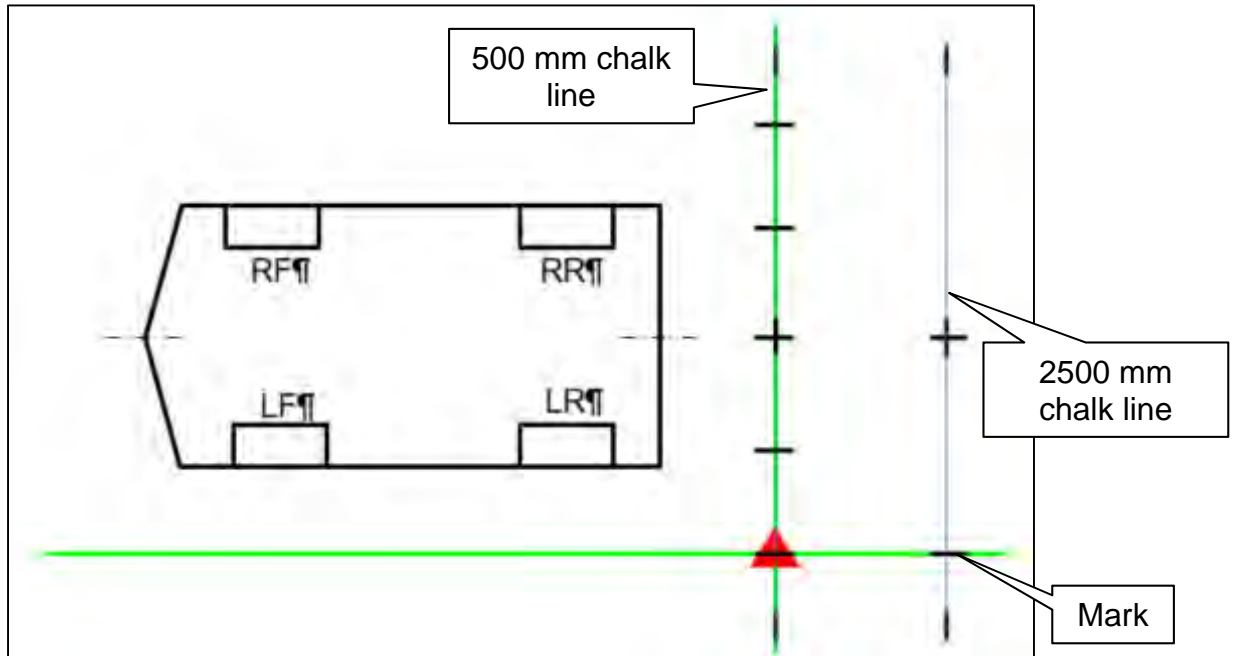
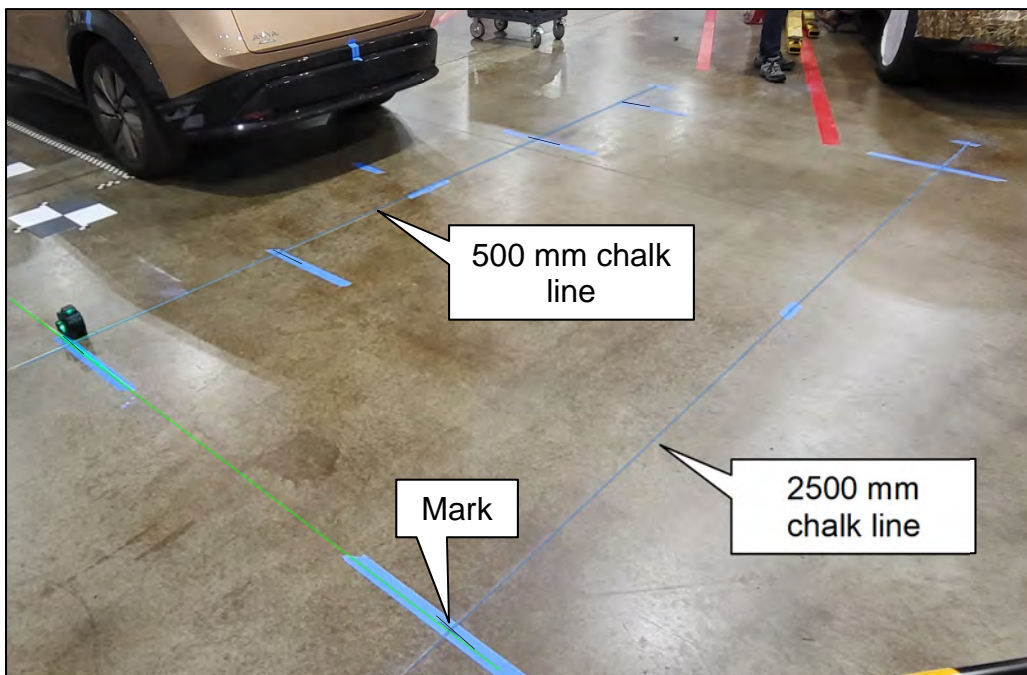

Figure 79
Figure 80
57. Move the laser level to the position shown in Figure 79, and then make a mark on the 2500 mm chalk line, as shown in Figure 79 and Figure 80.